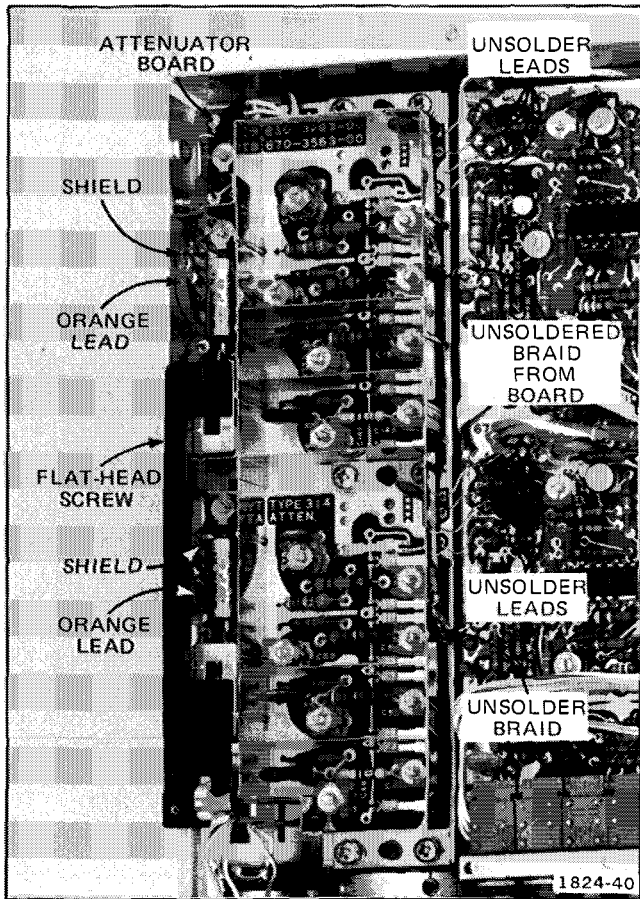

Fig. 4-12. Location of interconnecting and ground leads between Attenuator and Vertical circuit boards.
- a. Unsolder the 8 leads shown in Fig. 4-12 from the Vertical circuit board.
- f. Remove 2 flat-head screws from the chassis below the side-panel connectors. See Fig. 4-12.